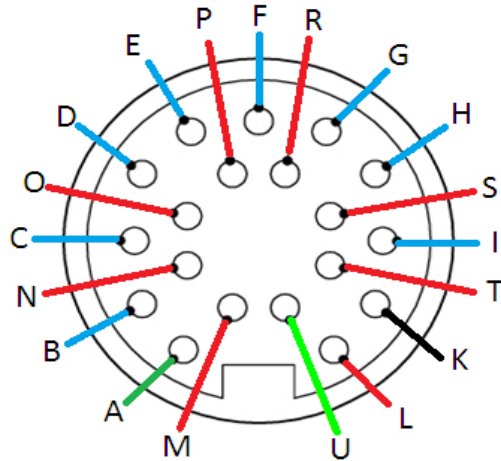

Fig. 3
- Figure 3 shows the inside of the Turck BK-19 connector